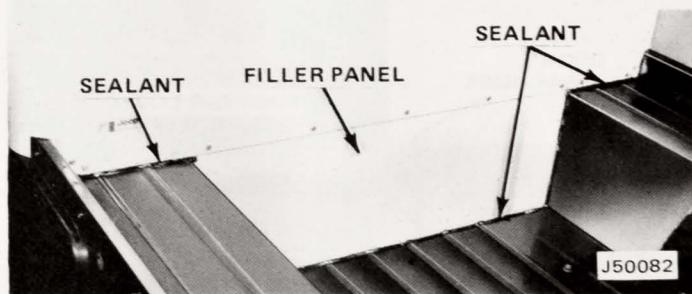

Fig. 2-14 Sealant Applied to Filler Panel and Body
(3) Force strip sealant between mating edges of filler plates and body and between filler plates and rear panel (fig. 2-14).